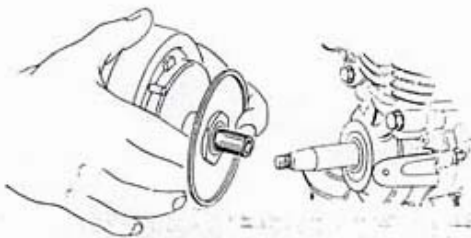

Fig. 4
- The variator can now be reinstalled (fig. 4).